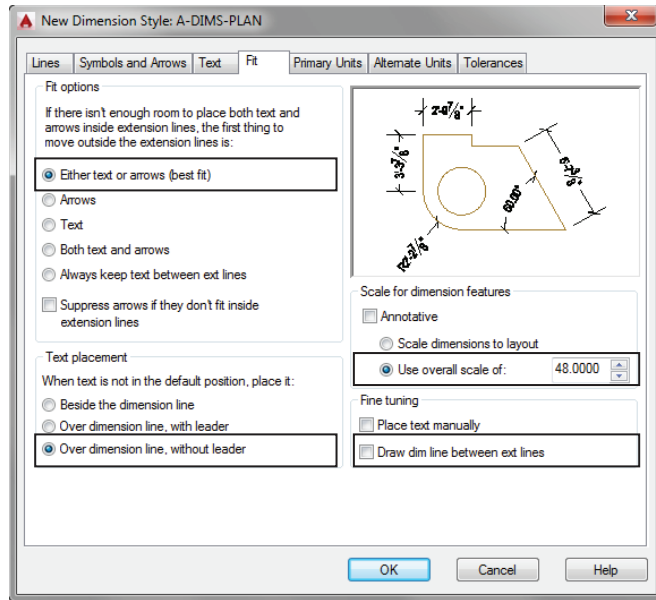

FIGURE 12.8: The new settings in the Fit tab
9. Click the Fit tab in the New Dimension Style dialog box, and change the following parameters to match Figure 12.8:
- ▶ Scale For Dimension Features, Use Overall Scale Of: 48 (50)